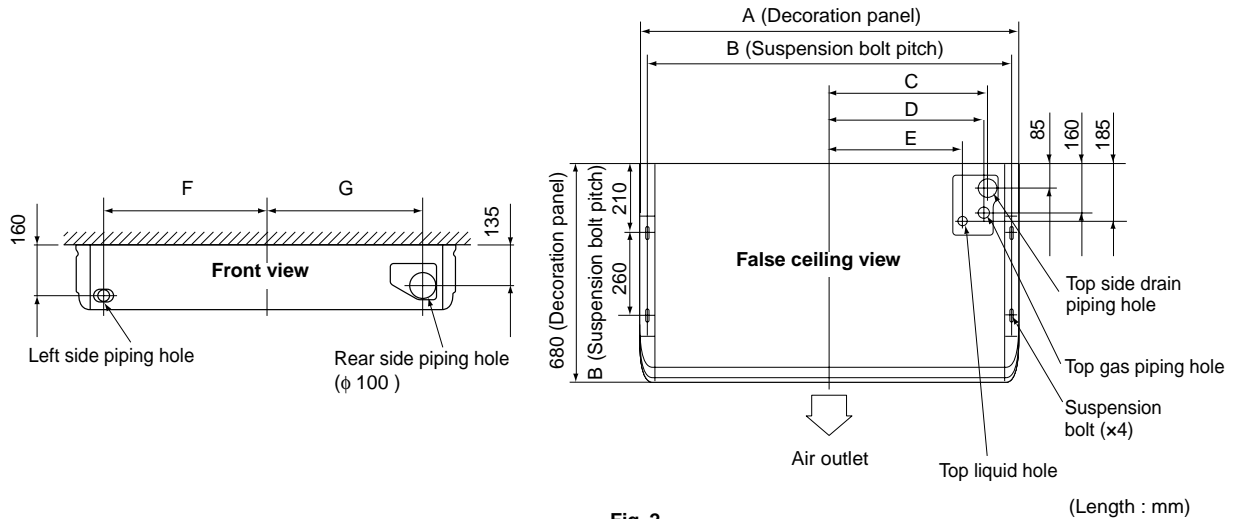

Fig. 2
(1) Relative positions of indoor unit, suspension bolt, piping hole, drain piping hole, and electric wire hole position. (Refer to Fig. 2)